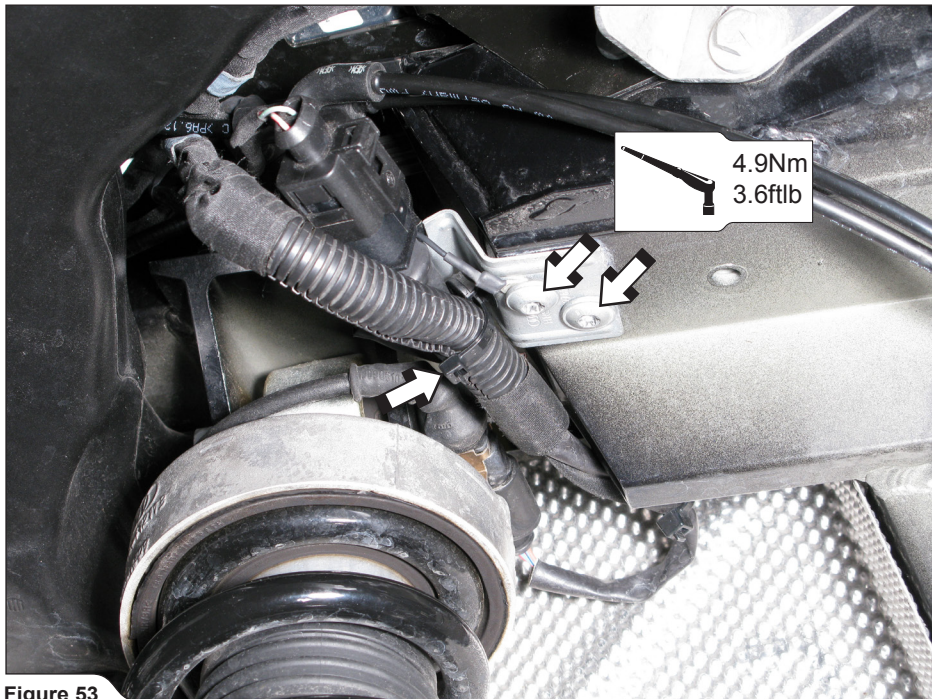

Figure 53
14. **For optional wireless kit only:** connect the Akrapovič wiring harness (male connector) to the stock wiring harness (female connector), correctly couple the vacuum tubes onto the electromagnetic valve, tighten the ground connector (black thin wire) together with valve's bracket onto the chassis and secure the wiring harness, using 250mm tie wrap from installation kit (**Figure 53**).